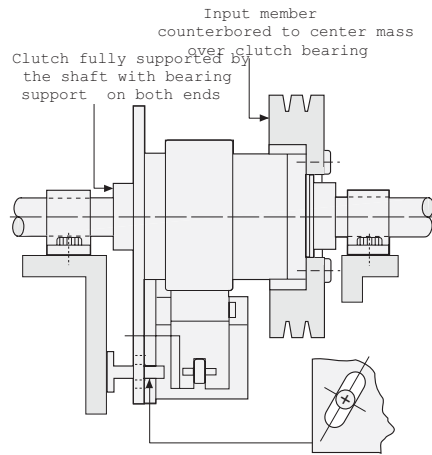
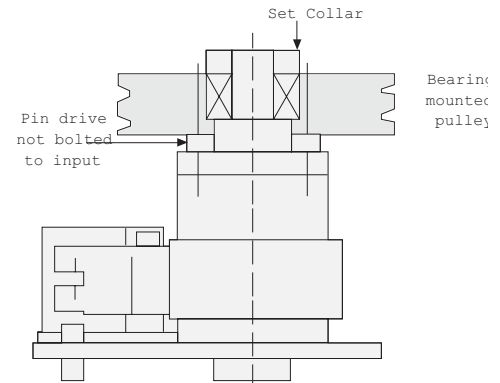

Figure 1 Plate restrained from rotating by or shoulder bolt. No axial bin
Figure 2
4. Align the cam face and actuator tip as shown in Figure 1.
5. Push the collar as indicated by the arrow in Figure 1 to take up the free collar play.
All Genuine Wrap Spring clutch products are designed for parallel shaft applications where they are fully supported by the shaft on which they are mounted. In the case of wrap spring clutch/brakes (CB), the through shaft is always the output. Connecting the parallel shaft to the CB input can be accomplished by use of a belt, chain or gear drive. CB models must be mounted with the shaft(s) in a horizontal position (Figure 1). If vertical mounting is required, see Figure 2.
See Figure 2 note.
**Figure 1** - Shows an ideal CB mounting. The unit is locked to the output shaft with a key and set screws. The mounting plate is restrained from rotating with a pin but is not restrained axially, reducing the load on the CB's internal plate bearing.
**Figure 2** - When applying a wrap spring vertically, the mating drive member (pulley, sprocket or sheave) must be bearing-supported as shown in Figure 2. This is necessary to eliminate the axial loading that will occur from the weight of the mating drive member (pulley, sprocket or sheave).
Illustrate how proper support can be provided. Input members are generally face mounted to the input hub of the unit as shown in Figure 1. This is facilitated by drilled and tapped holes in the free hub flange.